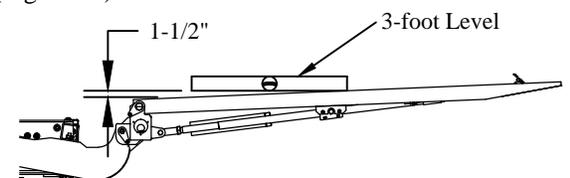

Figure 21: Platform position.
- Adjust** the passenger side support arm so that the platform is 1-1/2" from level over a 3-foot length (Figure 21). Adjustment similar to folding cylinder.